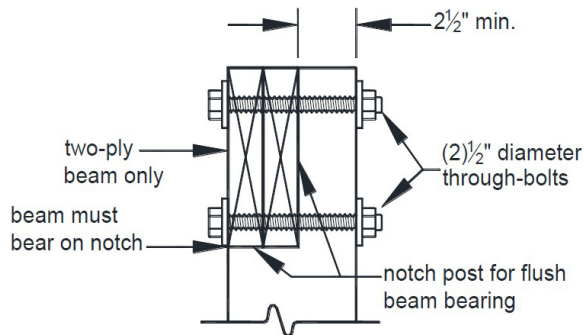
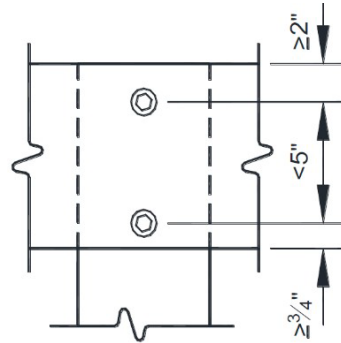
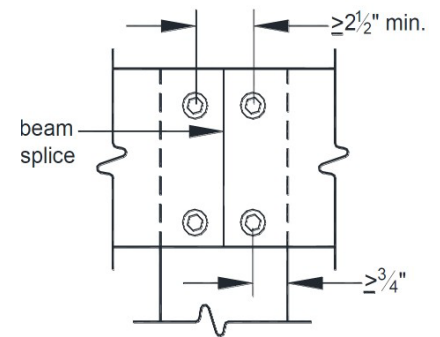

FIGURE 2 - POST TO BEAM CONNECTION
FIGURE 3 - CONNECTION DIMENSIONS
FIGURE 4 - BEAM SPLICE
- Single and two-ply beams shall be attached to 6x6 posts using the methods shown in Figure 2, Figure 3, and Figure 4.
- Beam plies are permitted to have splices located at a post as shown in Figure 4.